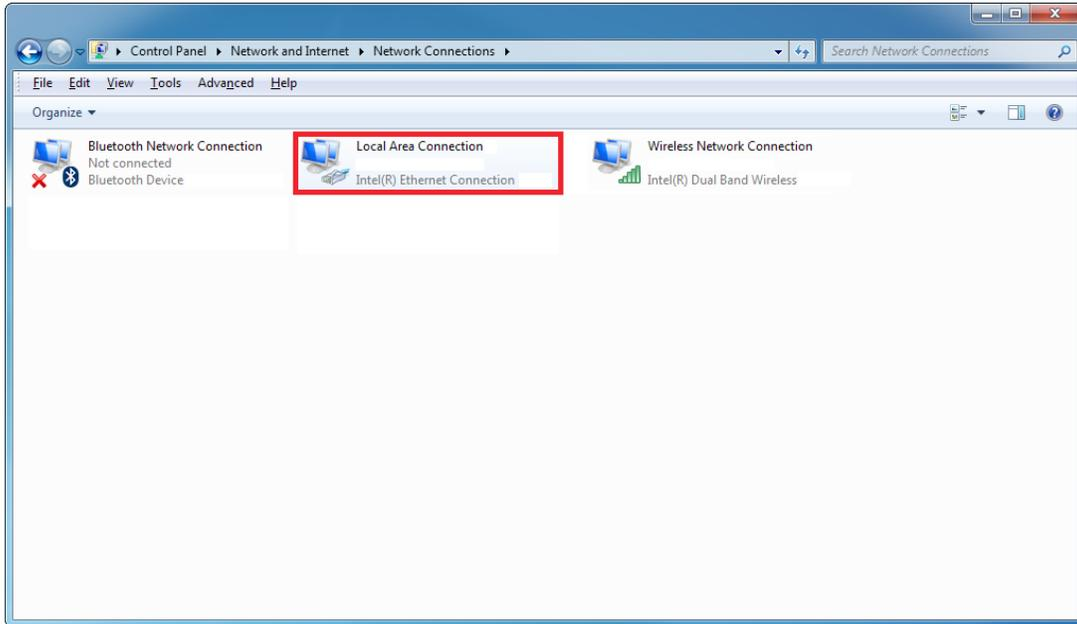

Figure 12 – Local Area Connection
4. In the *Change adapter settings* link, you will see icons representing all of the available Ethernet and Bluetooth connections. The Ethernet port on PCs is usually listed as “Local Area Connection” (as shown in Figure 12 below). Be sure to choose the correct Ethernet port for your machine.